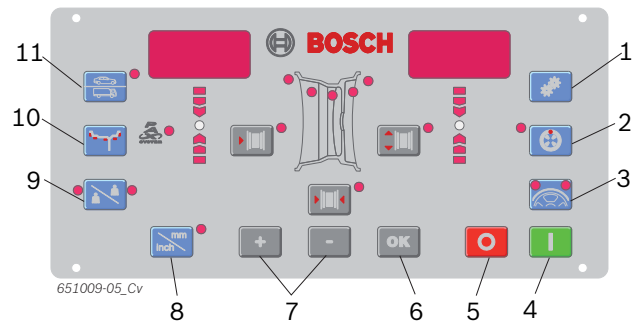

Fig. 5: Control/display panel keys
2. Enter the number of spokes with the keys **<->** or **<+>** (Fig. 5, Item 7).